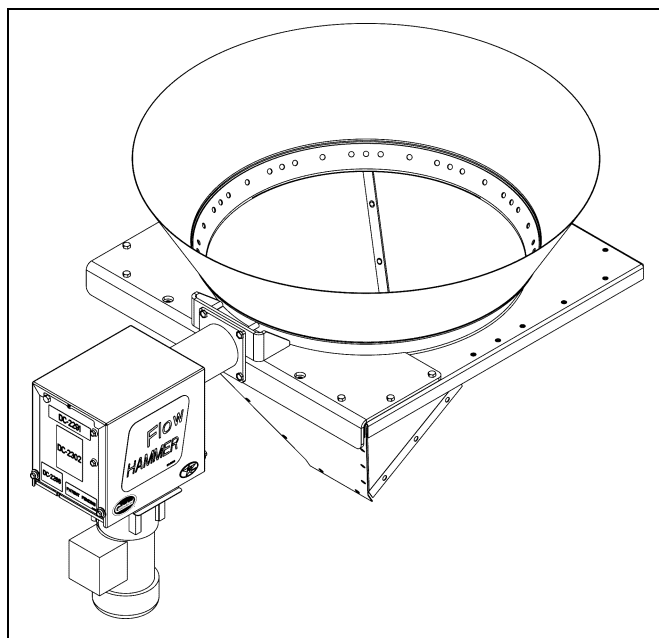

Figure 3E Assembled View
2. Slide mounting bracket (A) into position over the edge of the square collar as shown in Figure 3E.